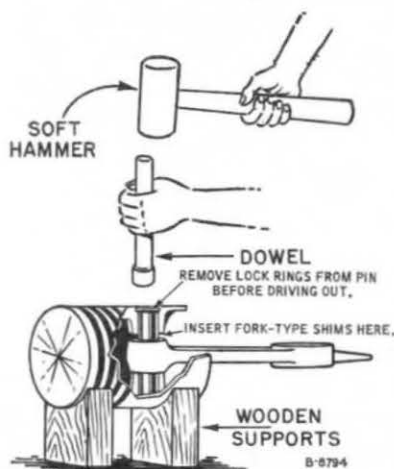

Figure 7-10. Piston Pin Removal & Replacement.
3. Remove the piston pin lock rings from their grooves and with a dowel of appropriate size and a soft hammer, drive out the piston pin. Important: To prevent piston distortion during this operation, play between the piston pin bosses and connecting rod must be eliminated by inserting fork-type shims of the necessary thickness between the rod and boss. See Figure 7-10.